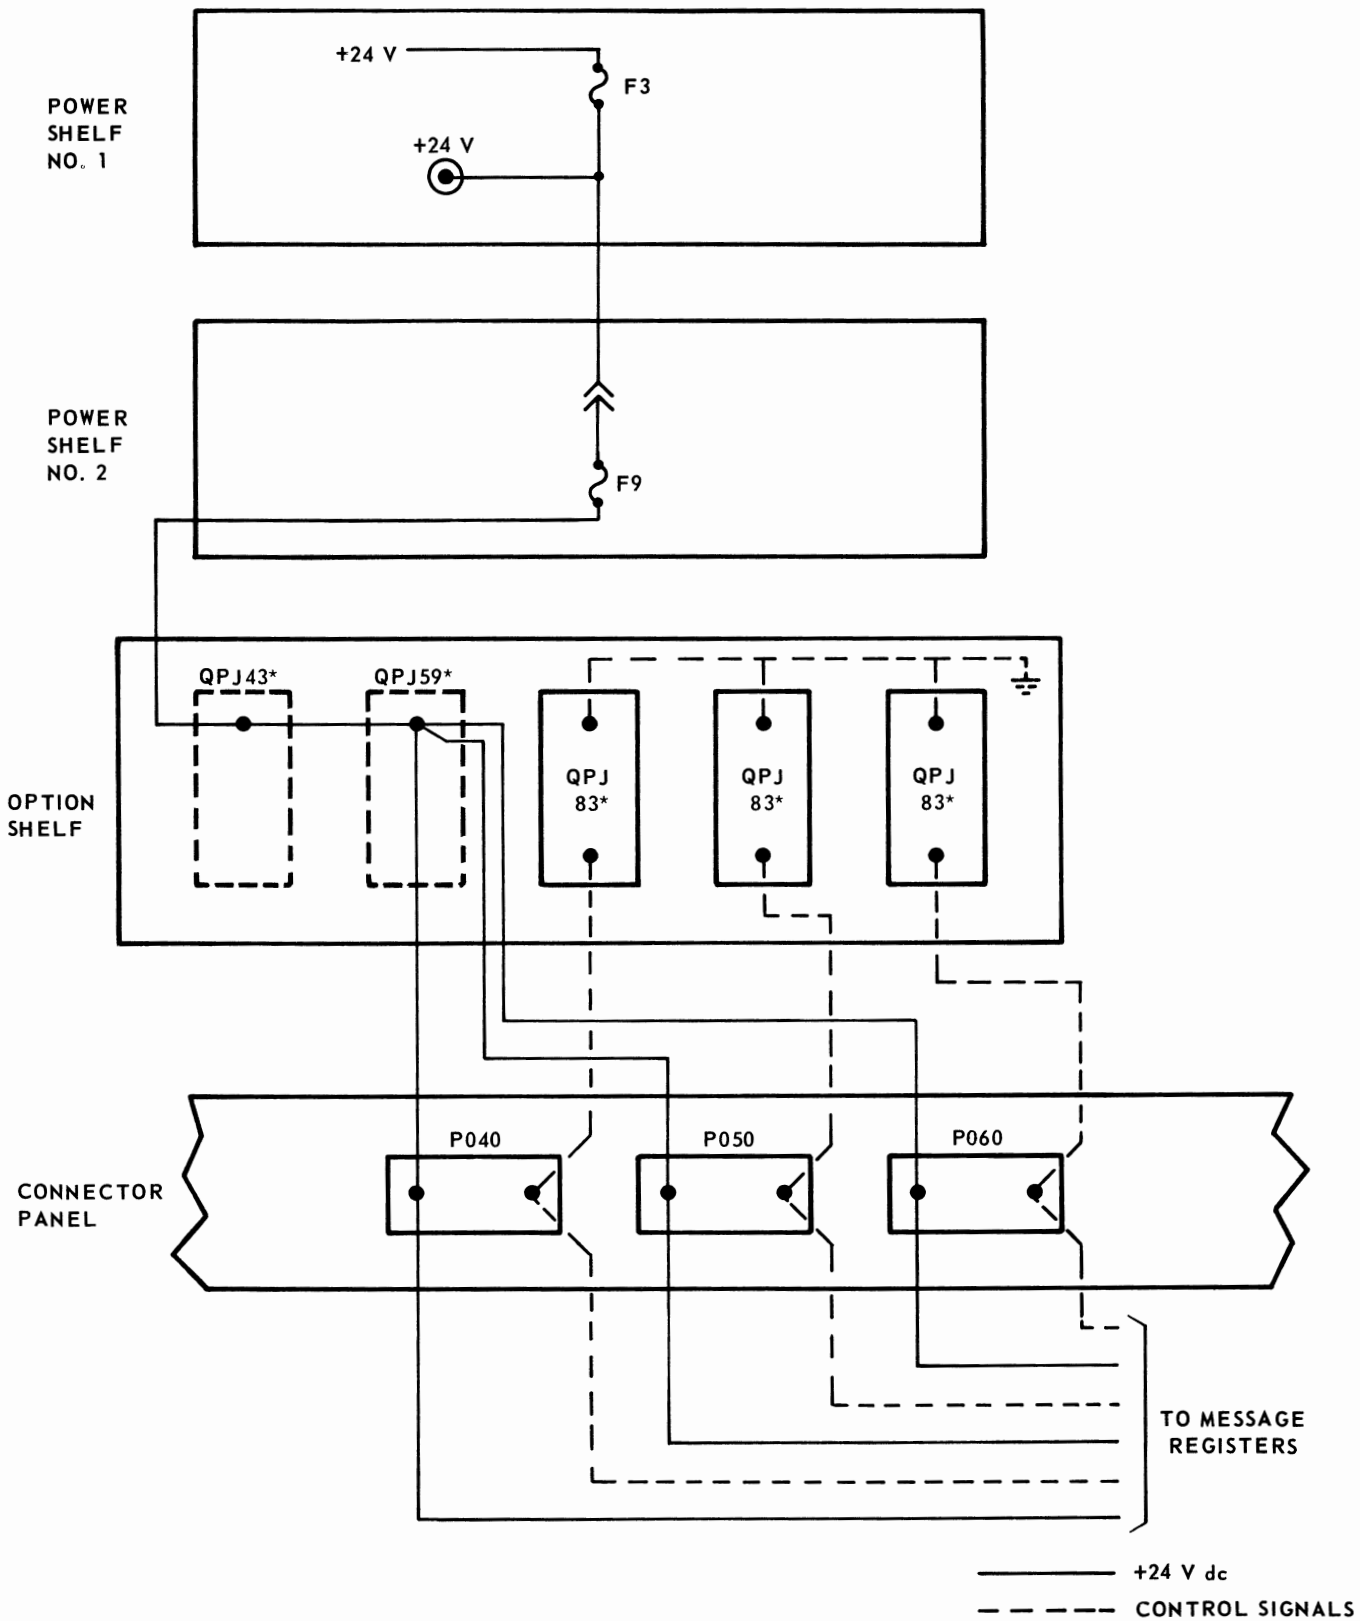

Fig. 1 — +24 V Power Supply to Message Registers
- by the PULSE 120 for +24 V registers (see Fig. 1 and Tables A, B, C)
When a completed call is detected, the appropriate message register is incremented by applying a ground pulse to the message register lead through a QPJ83-type circuit pack as shown in Fig. 1.